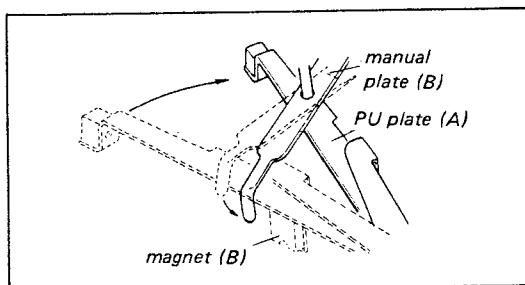

Fig. 4-2
- 1) The MANUAL plate moves as shown in Fig. 4-2, when the tonearm is located at a suitable position.